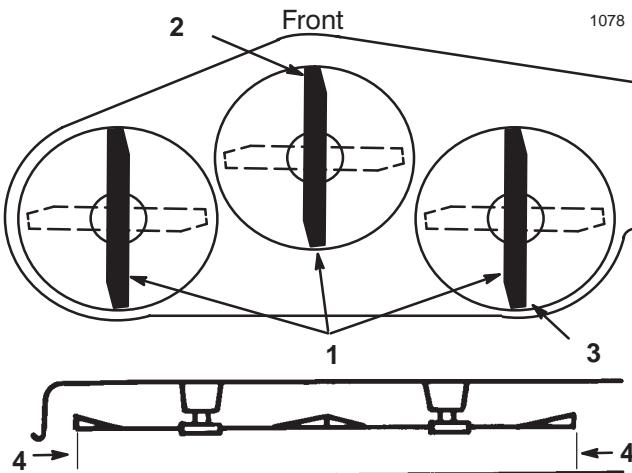

Figure 41
5. Set the height-of-cut at 3 in. (76 mm) and carefully rotate the blades so they are facing front to rear (Fig. 41).
- Measure between the tip of the front blade (Fig. 41) and the tip of the rear blade to the flat surface. If the front blade tip is not 1/16–5/16 in. (1.6–7.9 mm) lower than the rear blade tip, adjust the front trunnion rods.
- After adjusting both trunnion rod yokes evenly, secure the yokes with the hairpin cotters. Check the front-to-rear level again. Continue adjusting the yokes until the front blade tip is 1/16–5/16 in. (1.6–7.9 mm) lower than the rear blade tip (Fig. 41).